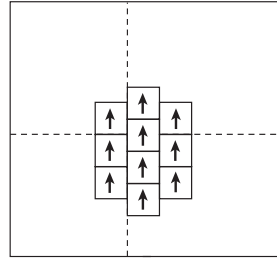

Fig. 2 – Staggered
4. When installing PERSPECTIVES Tile by staggering the joints, the tile should be run in the same direction. See Figure 2.